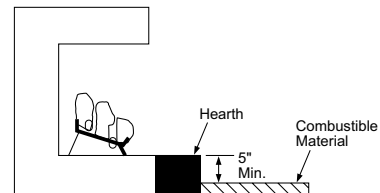

Figure 9 - Minimum Fireplace Clearances Above Combustible Flooring
- B. If combustible materials are less than 14" to the fireplace, you must install appliance at least 5" above the top surface of combustible flooring including tile and carpet (see **Figure 9**).